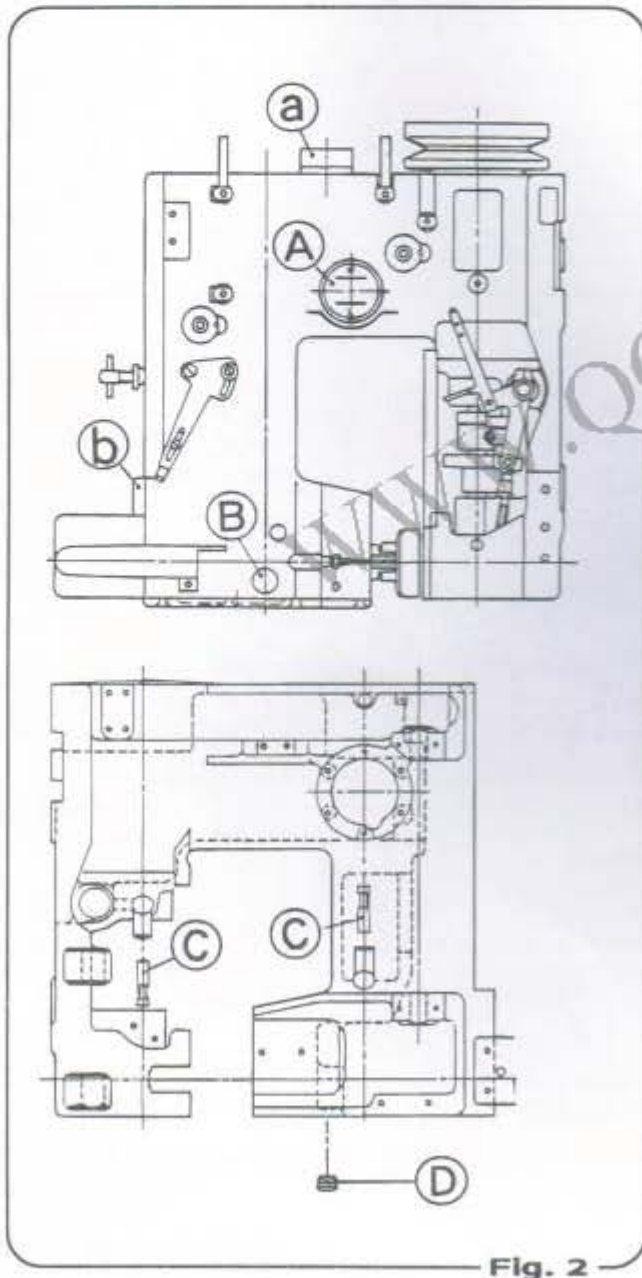

Fig. 2
- Unscrew breather cap a and fill with oil to between the maximum and minimum levels (A). Approximately 1,600cc should be used. (Fig.2)
- Remove cover (b) and fill with oil so that level reaches the 'red point' indicator (B). Approximately 140 cc should be used. (Fig.2)
As indicated (Fig.2) oil is drained from the machine by rotating and un-plugging, (C, D).
- 往(A)注油口儿加油，请拧开注油盖(a)后，加油直到油上面到“H”水准标记为止，注油量约1,600cc(图2)
- 往(B)注油口儿加油，请拧开注油盖(b)后，加油直到油上面到红色圈为止，注油量约140cc(图2)